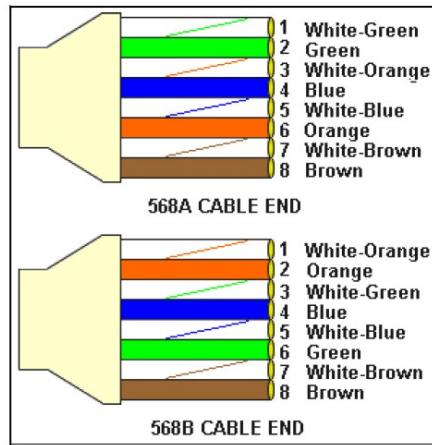

Figure 4-2 - 568A & 568B Cable End Wire Color Diagram
2. Untwist the wires to within 1/8" of the jacket. Arrange the wires according to TIE/EAI 586A & 586B (Figure 4-2). For straight patch cables, wire both ends 586A; for crossover cables, wire one end 586A and the other 586B. Insert wires into the loading bar. Trim excess wires.